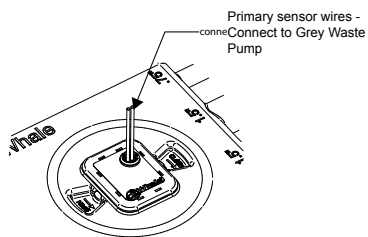

Figure 9A Single Sensor Models
- Fig. 9A Single Sensor Version